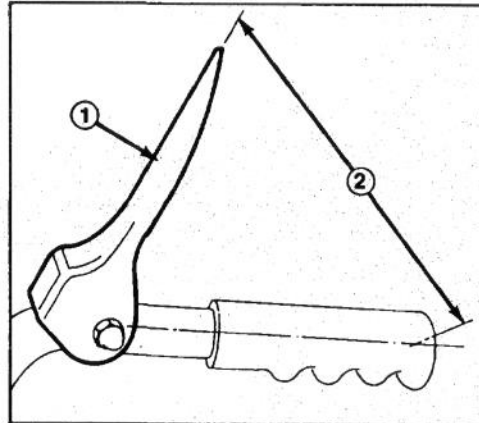

Figure 4
4. Check the distance between the center of the handle and top of the control lever (Fig. 4). Distance should be 5 1/2 inches (14 cm).